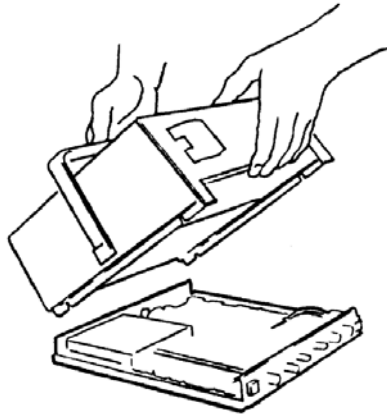
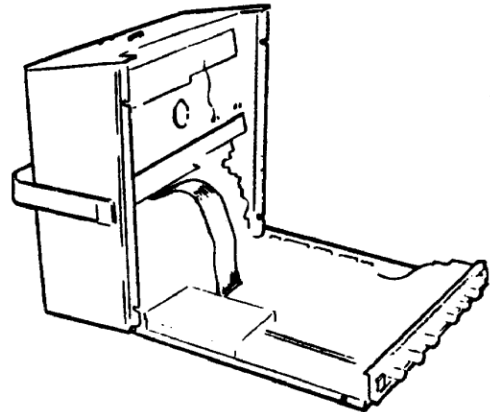

Figure 1-6. Monitor circuit board access.
Figure 1-7. Monitor chassis in fully open position.
- (1) Remove the two front screws holding the base to the monitor chassis (figure 1-6).
- (2) Loosen the two rear screws to function as a hinge for easy access to the circuit boards.
- (3) Rotate the monitor into an upright position (figure 1-7).